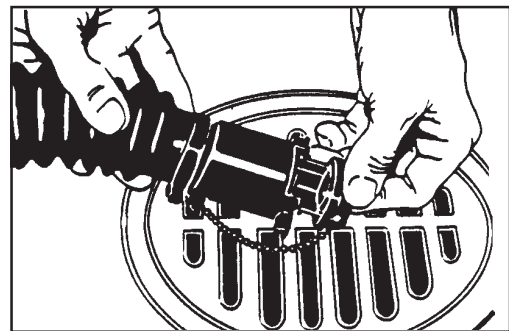

Figure 27
- 1.) Turn the valve handle to the left. Pull the handle out to open the drain (Figure 27).